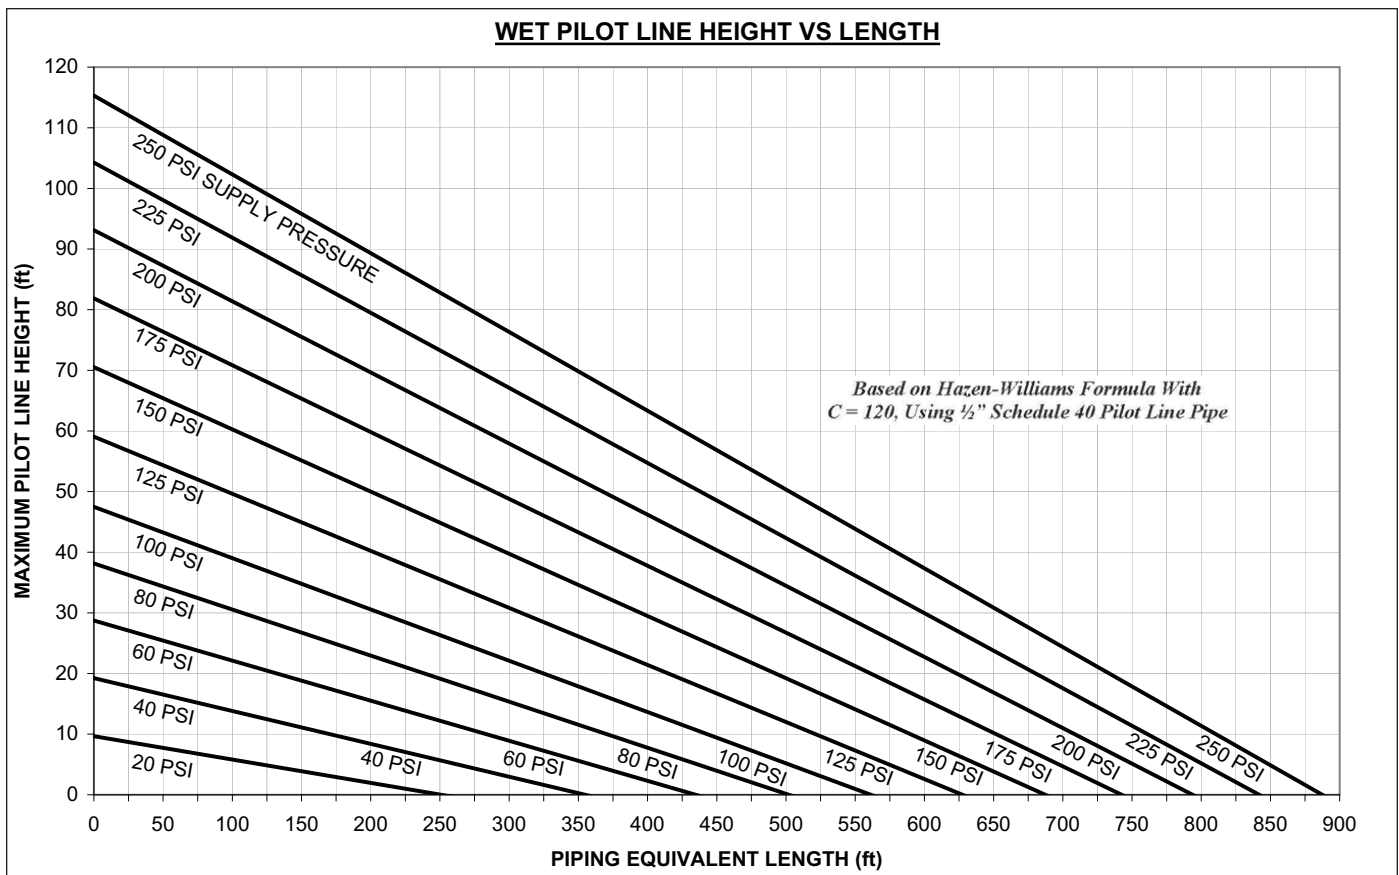

Fig. 3
- d. Maximum wet pilot line length and height must comply with data provided in Fig. 3.